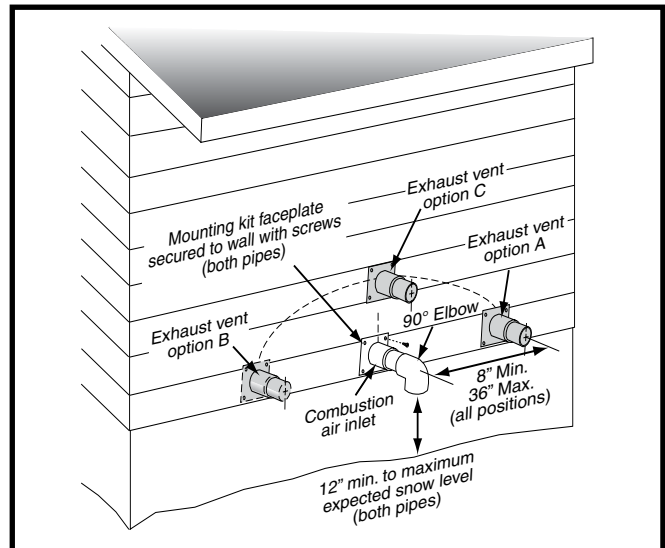
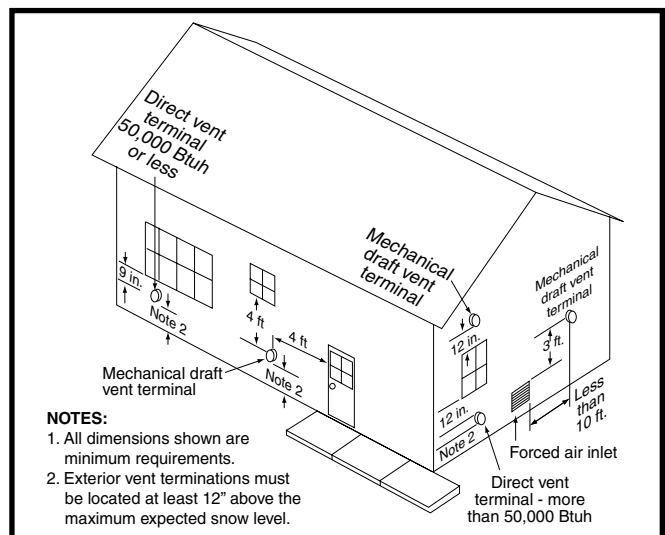
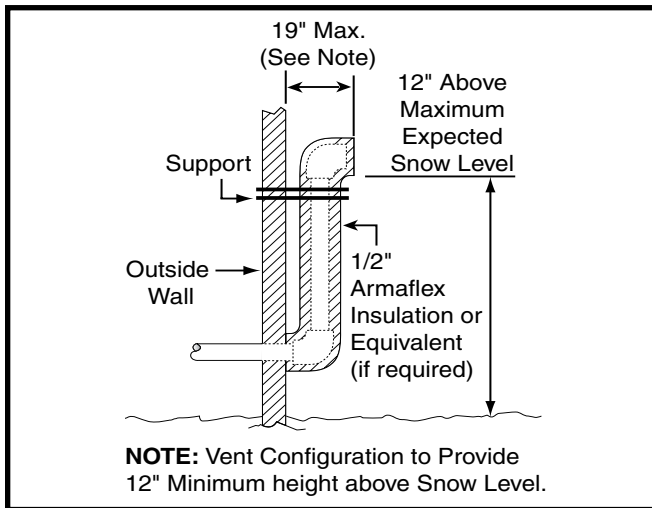
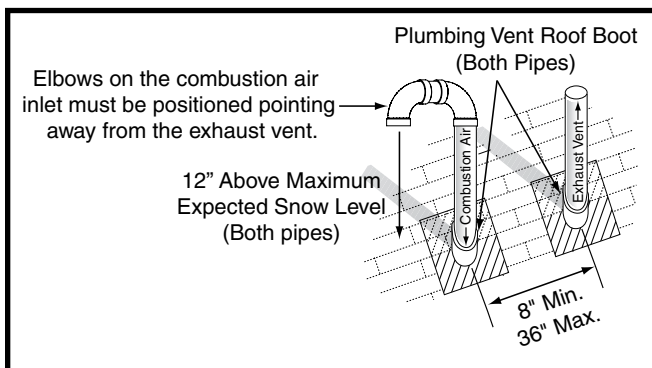

Figure 7. Inlet & Exhaust Pipe Clearances
Figure 8. Vent Locations
Figure 9. Alternate Horizontal Vent Installation
Figure 10. Vertical Vent Termination
- If a Direct Vent (2-pipe) system is used, the combustion air intake and the vent exhaust must be located in the same atmospheric pressure zone. This means both pipes must exit the building through the same portion of exterior wall or roof as shown in Figure 7, (page 12), Figure 8, (page 12), Figure 9, (page 13), & Figure 10, (page 13).
- Vent and combustion air intake terminations shall be installed as depicted in Figure 7 and Figure 8 and in accordance with these instructions:
- All minimum clearances must be maintained to protect building materials from degradation by flue gases as shown in Figure 7.
- When the vent pipe must exit an exterior wall close to the grade or expected snow level where it is not possible to obtain clearances shown in Figure 7, a riser may be provided as shown in Figure 9. Insulation is required to prevent freezing of this section of pipe. See Table 2, (page 14) for vent freezing protection.
Termination spacing requirements from the roof and from each other are shown in Figure 10. The roof penetration must be properly flashed and waterproofed with a plumbing roof boot or equivalent flashing. Vent and combustion air piping may be installed in an existing chimney which is not in use provided that:
- The termination clearances shown in Figure 10 are maintained.